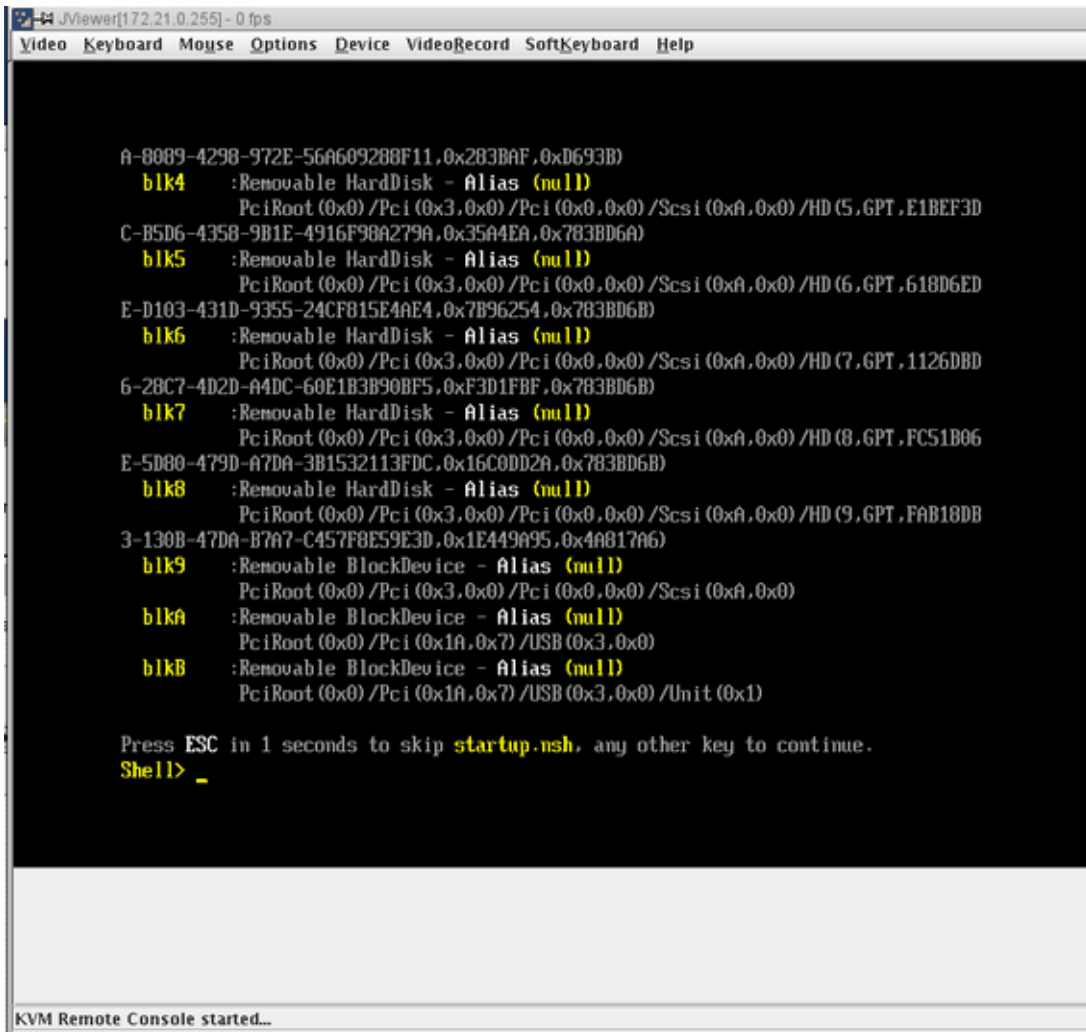

Figure 3-8 KVM JViewer Shell Prompt Screen
11. The JViewer KVM redirection window appears with a **Shell>** prompt, as shown in Figure 3-8 on page 44.